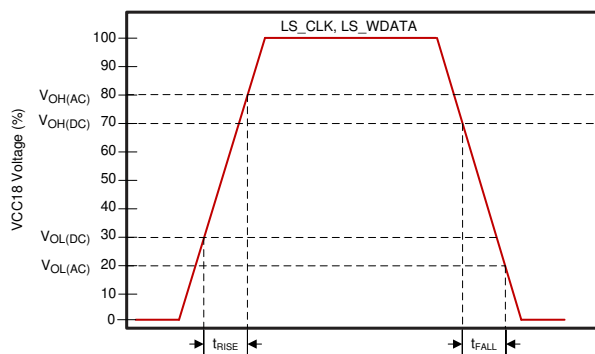

Figure 6-3. LS_CLK and LS_WDATA Slew Rate
- (1) $V_{OH(AC)}$ maximum applies to overshoot. When the DMD_LS_WDATA and DMD_LS_CLK lines include a proper 43-Ω series termination resistor, the DMD operates within the LPSDR input AC specifications.
- (2) $V_{OL(AC)}$ minimum applies to undershoot. When the DMD_LS_WDATA and DMD_LS_CLK lines include a proper 43-Ω series termination resistor, the DMD operates within the LPSDR input AC specifications.
- (3) See Figure 6-3 for DMD_LS_CLK, and DMD_LS_WDATA rise and fall times. See Figure 6-4 for DMD_DEN_ARSTZ rise and fall times.